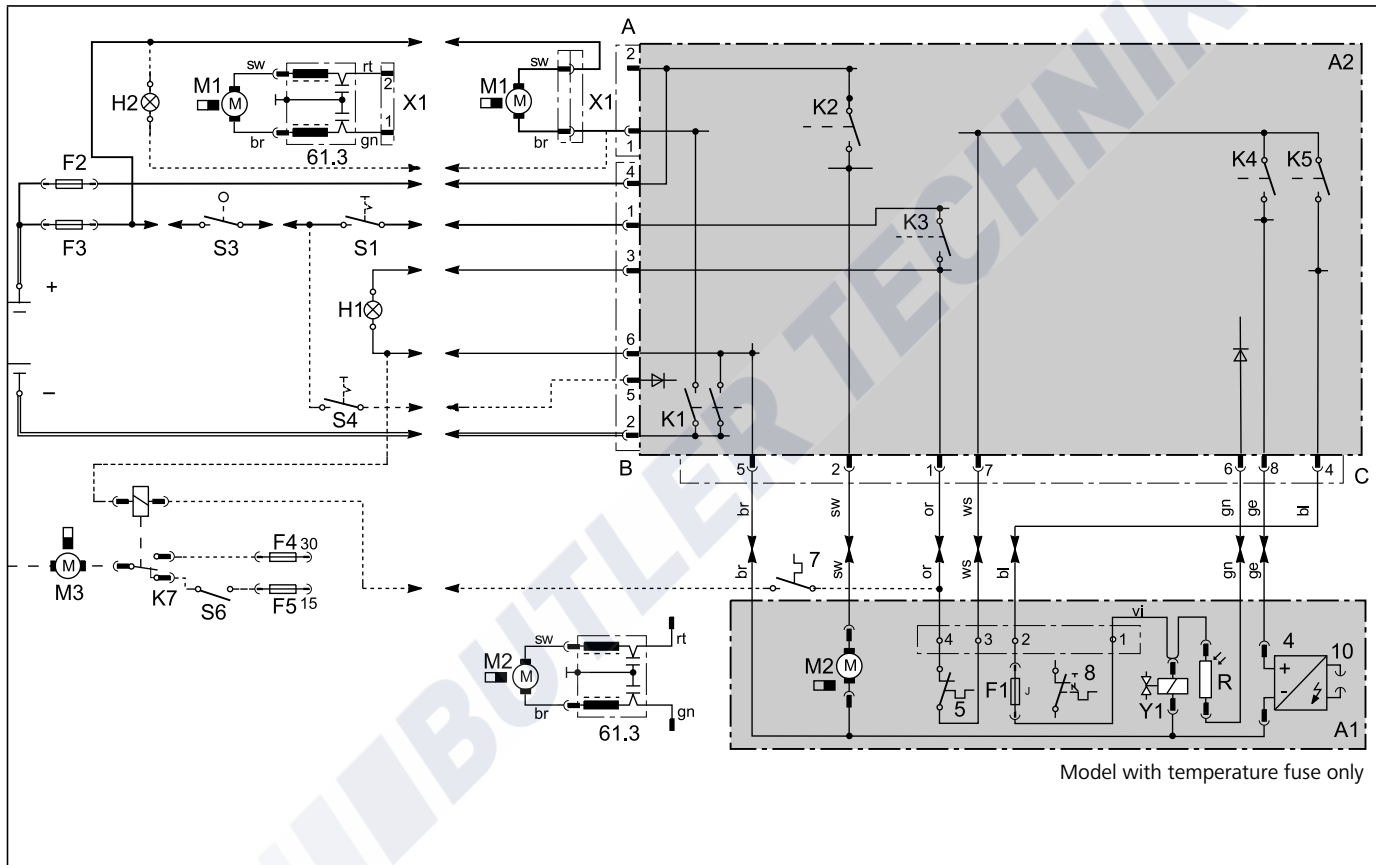
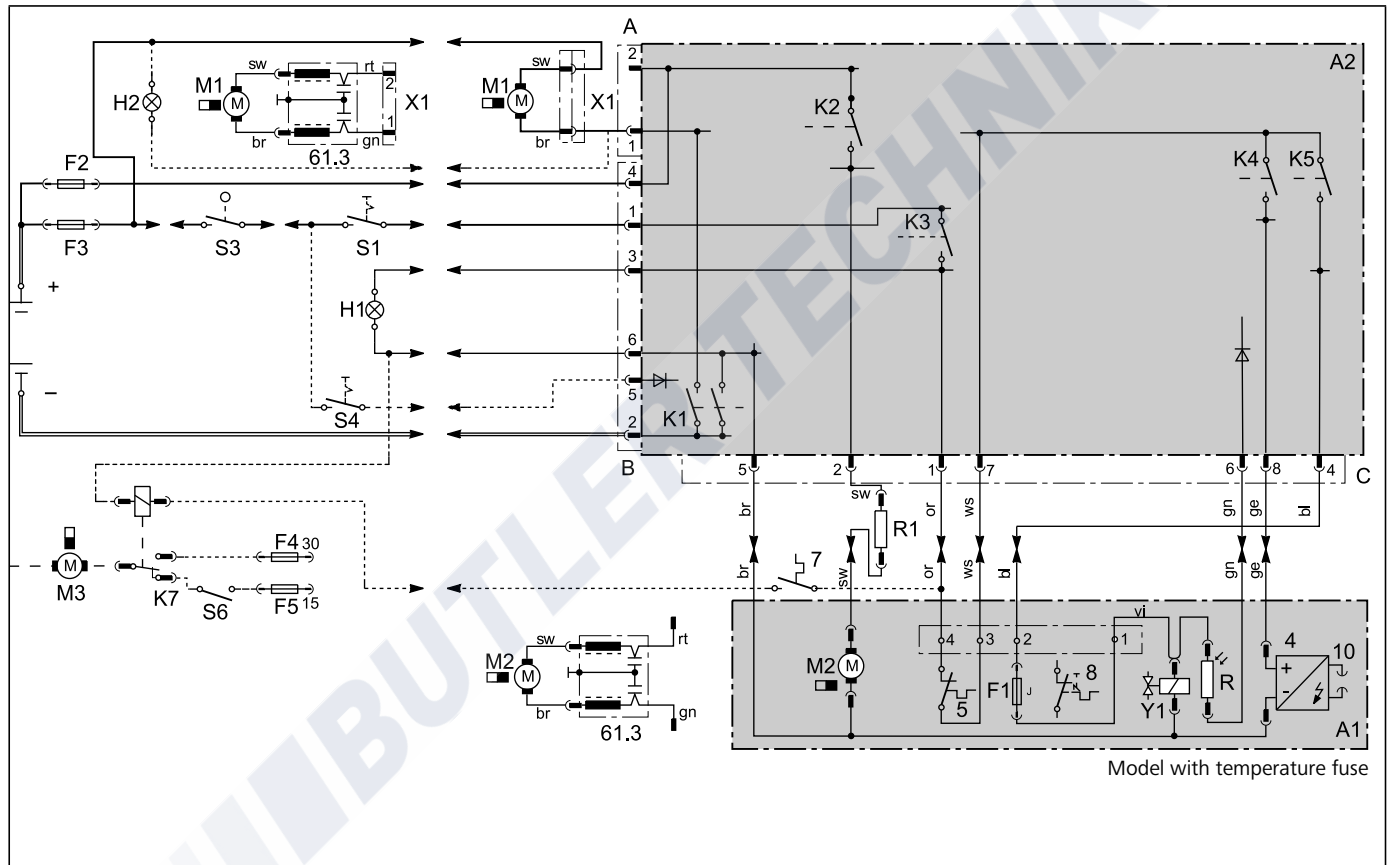
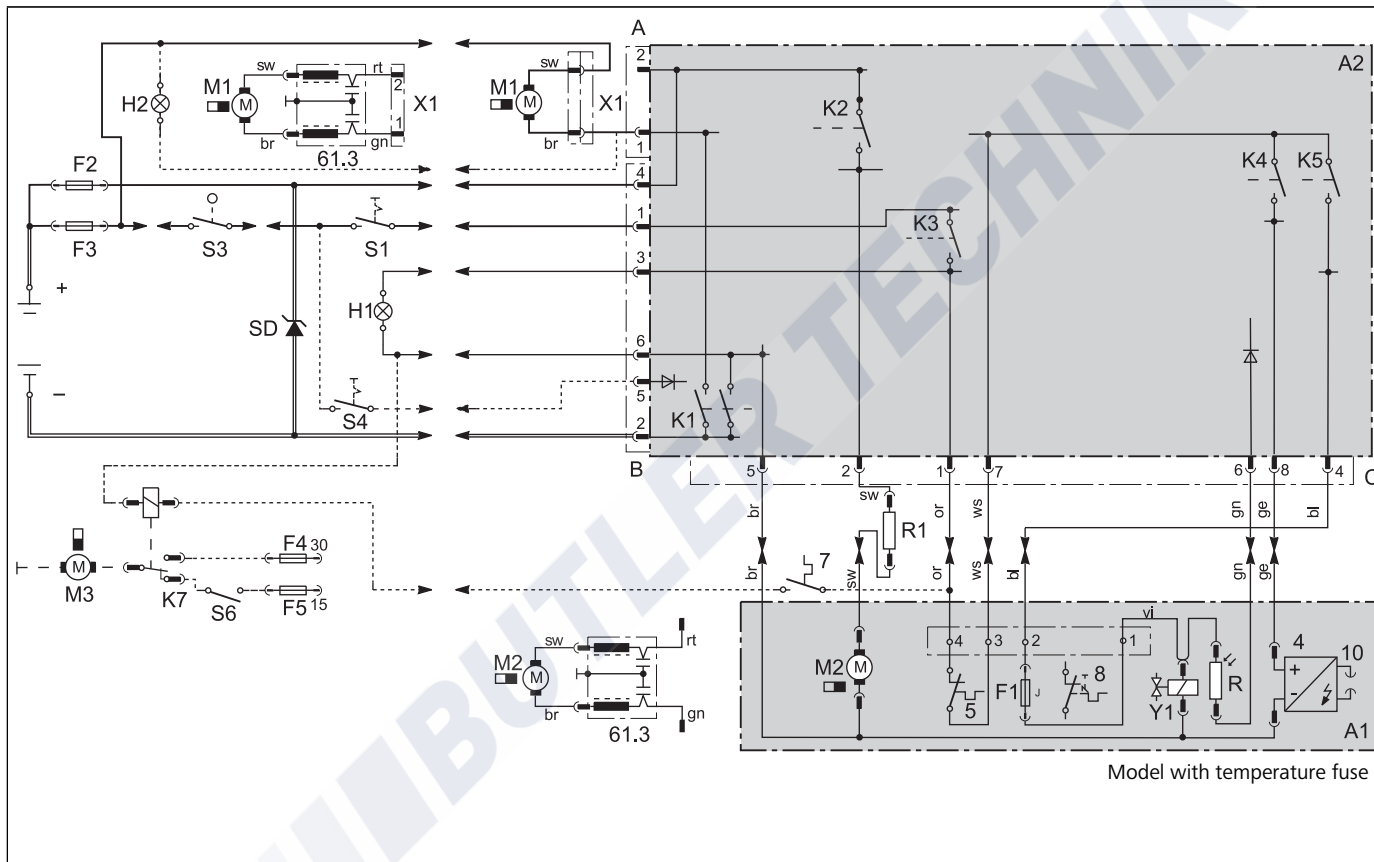
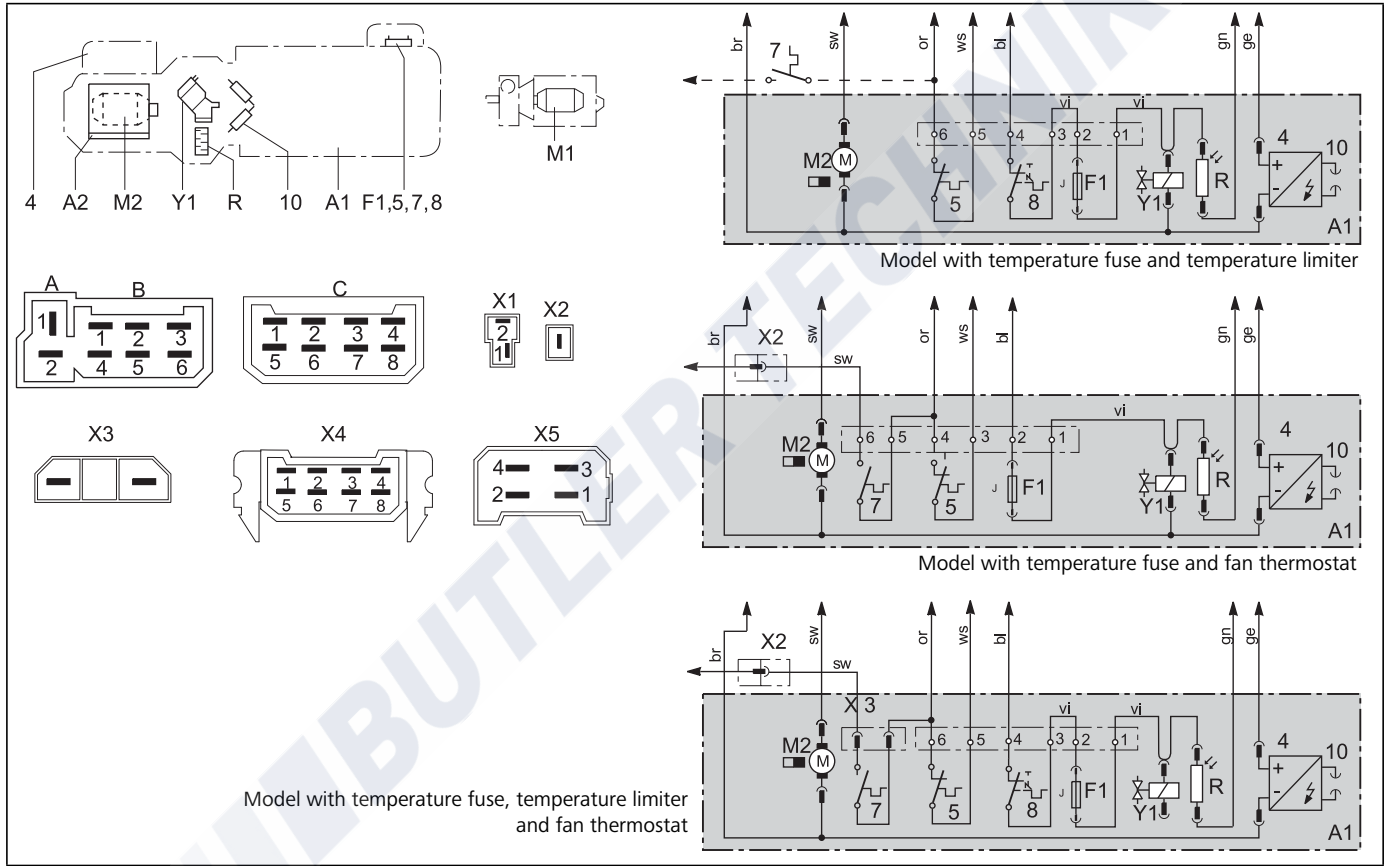

Fig. 9: System circuit for DBW 2010 with control unit 1553 and switch, see legend on page 40 and 41
Fig. 10: System circuit for DBW 2016 with control unit 1553 and switch, see legend on page 40 and 41
Fig. 11: System circuit for DBW 2016 Rail with control unit 1553 and switch, see legend on page 40 and 41
Fig. 12: Unit variants and plug assignments, see legend on page 40 and 41
The electrical connection of the heaters is made as shown in Figure 9 (DBW 2010), Figure 10 (DBW 2010) or Figure 11 (DBW 2016 Rail):
Connections of the heaters differing from those of the standard variant (Figures 9 / 10) are shown in Figure 11 (DBW 2016 Rail), Figure 12 (heater variants and plug assignments), Figures 13 / 14 (nozzle block preheating system).
- Switch, see automatic circuit diagram figures 9 to 14